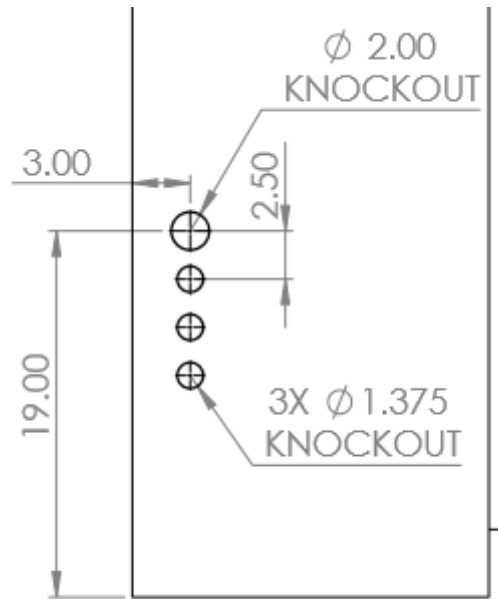

Figure 16.0 - ACCESS Cabinet Knockouts (Sides)
2. The AccESS Sol-Ark is equipped with multiple knockouts (see Figure 16.0 on the following page). Utilize any one of these to feed the PV wiring from the PV disconnect into the AccESS enclosure.